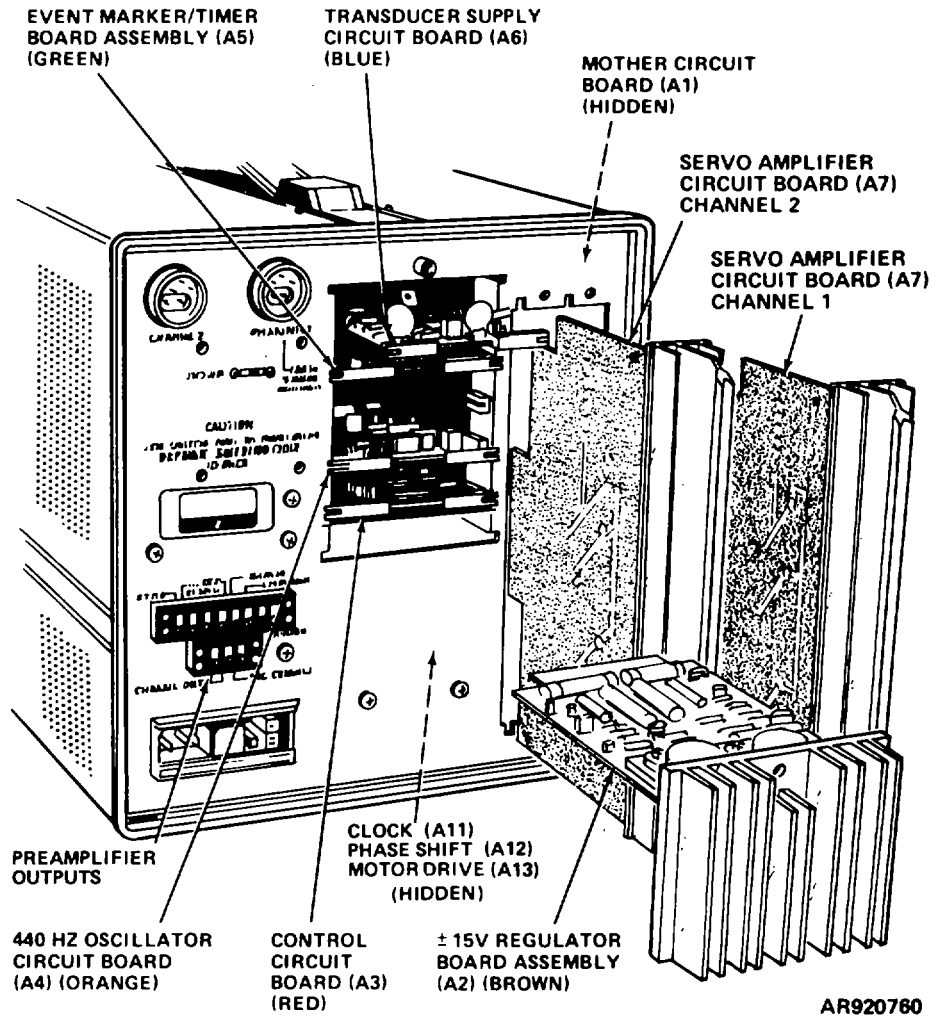

Figure 4. Circuit board locations
- (1) Remove left cover. See
- figure 4 for circuit board locations.